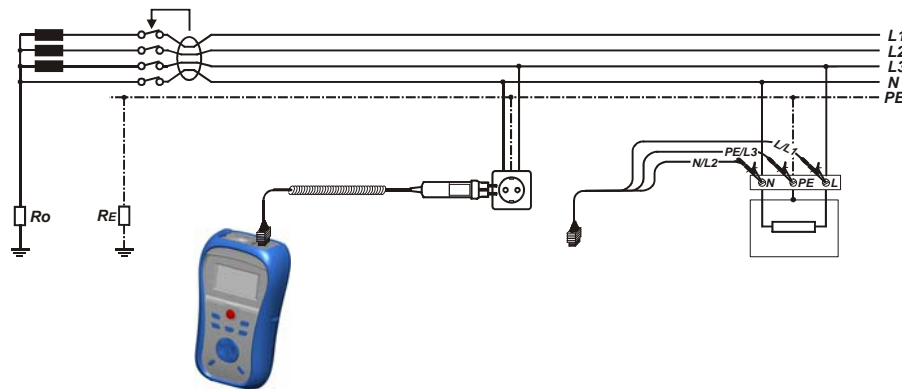

Figure 5.22: Connecting the plug cable and the universal test cable
- ❑ **Connect** test leads to the item to be tested (see figure 5.22).
<ul style="list-style-type: none"> ❑ Select the RCD function using the function selector switch. ❑ Set sub-function AUTO. ❑ Set test parameters (if necessary). ❑ Connect test cable to the instrument. ❑ Connect test leads to the item to be tested (see figure 5.22). ❑ Press the TEST key to perform the test. 	Start of test